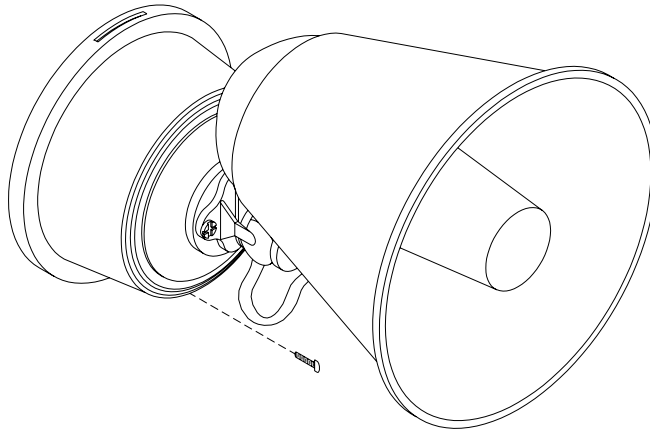

Figure 9 Horn Signal Mounting Plate Screw
11. Remove the horn signal mounting plate from the horn base by loosening the Phillips head screw on the base as seen in figure 9.